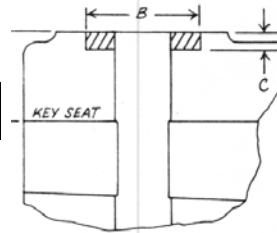

FIG. 2
2. Using the original Column Hole for location, counterbore the top surface of the base to Dim. B, Fig. 2 and Dim. C, Fig. 2, so that Dim. A, Fig. 2 is as specified.